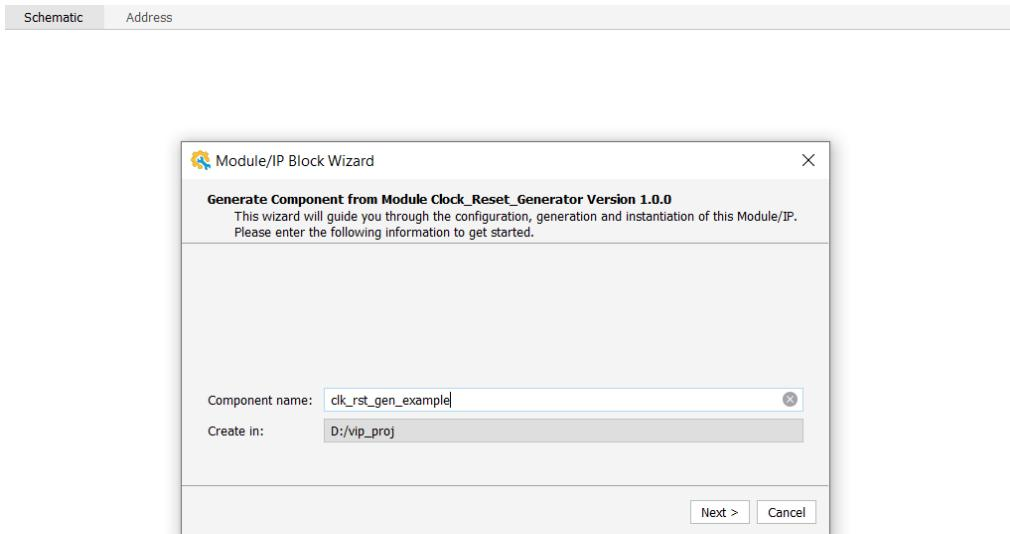

Figure 3.1. Entering the Module Name
2. Enter the module name and click **Next**, as shown in Figure 3.1.